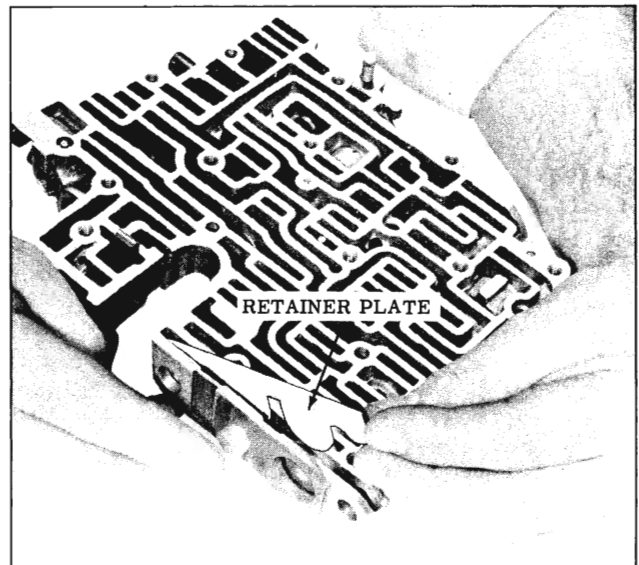

Fig. 3-92 Installing Retainer Plate
28. Install valve bore plug in valve body compressing and partially installing multiple plug retainer. Install retainer in such a manner that only one corner of the plug is retained. This will permit the installation of the remaining valves. (Fig. 3-92)